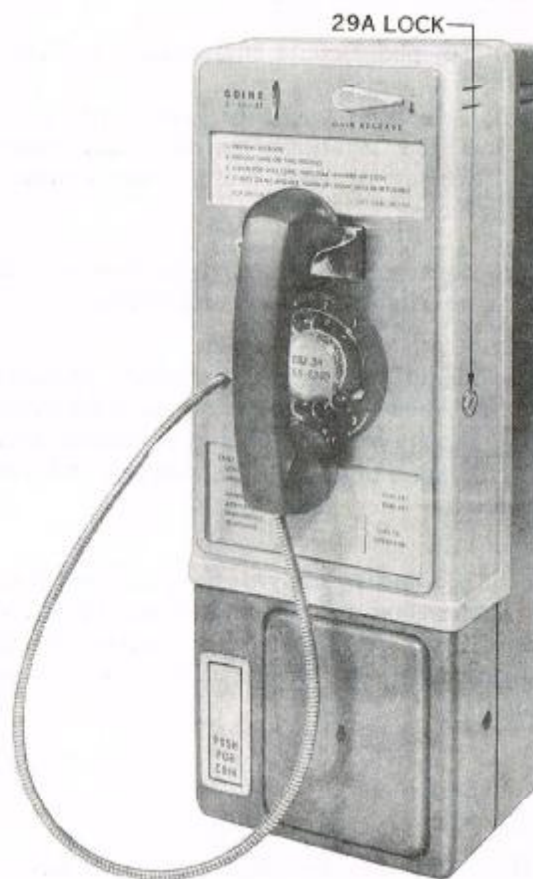

Fig. 2 - Location of 29A Lock
- (1) Unlock the 29A lock on right side of set (Fig. 2).